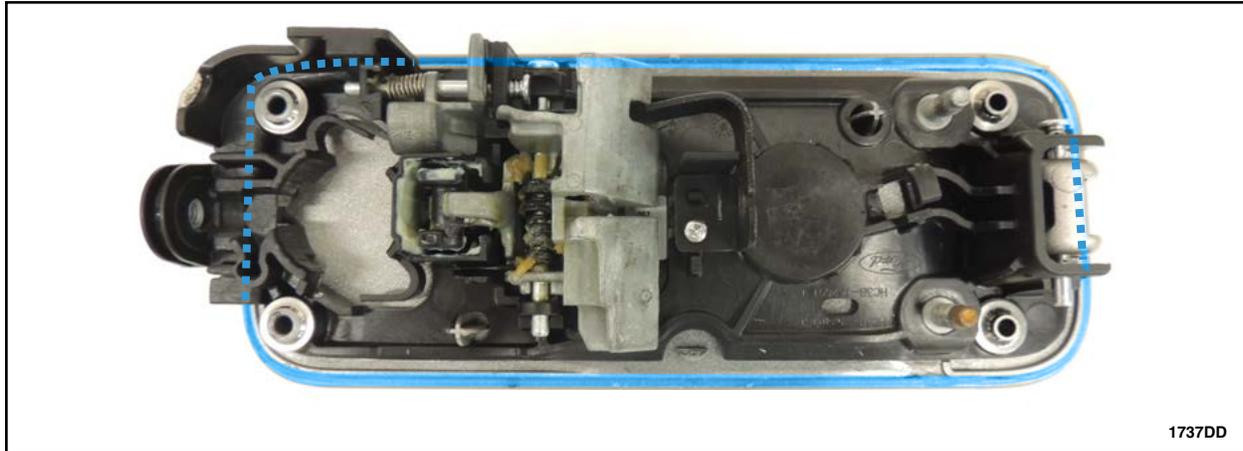

FIGURE 92
18. Using a clean shop towel and isopropyl alcohol, clean the highlighted mating surface area of the exterior door handle. See Figure 92.